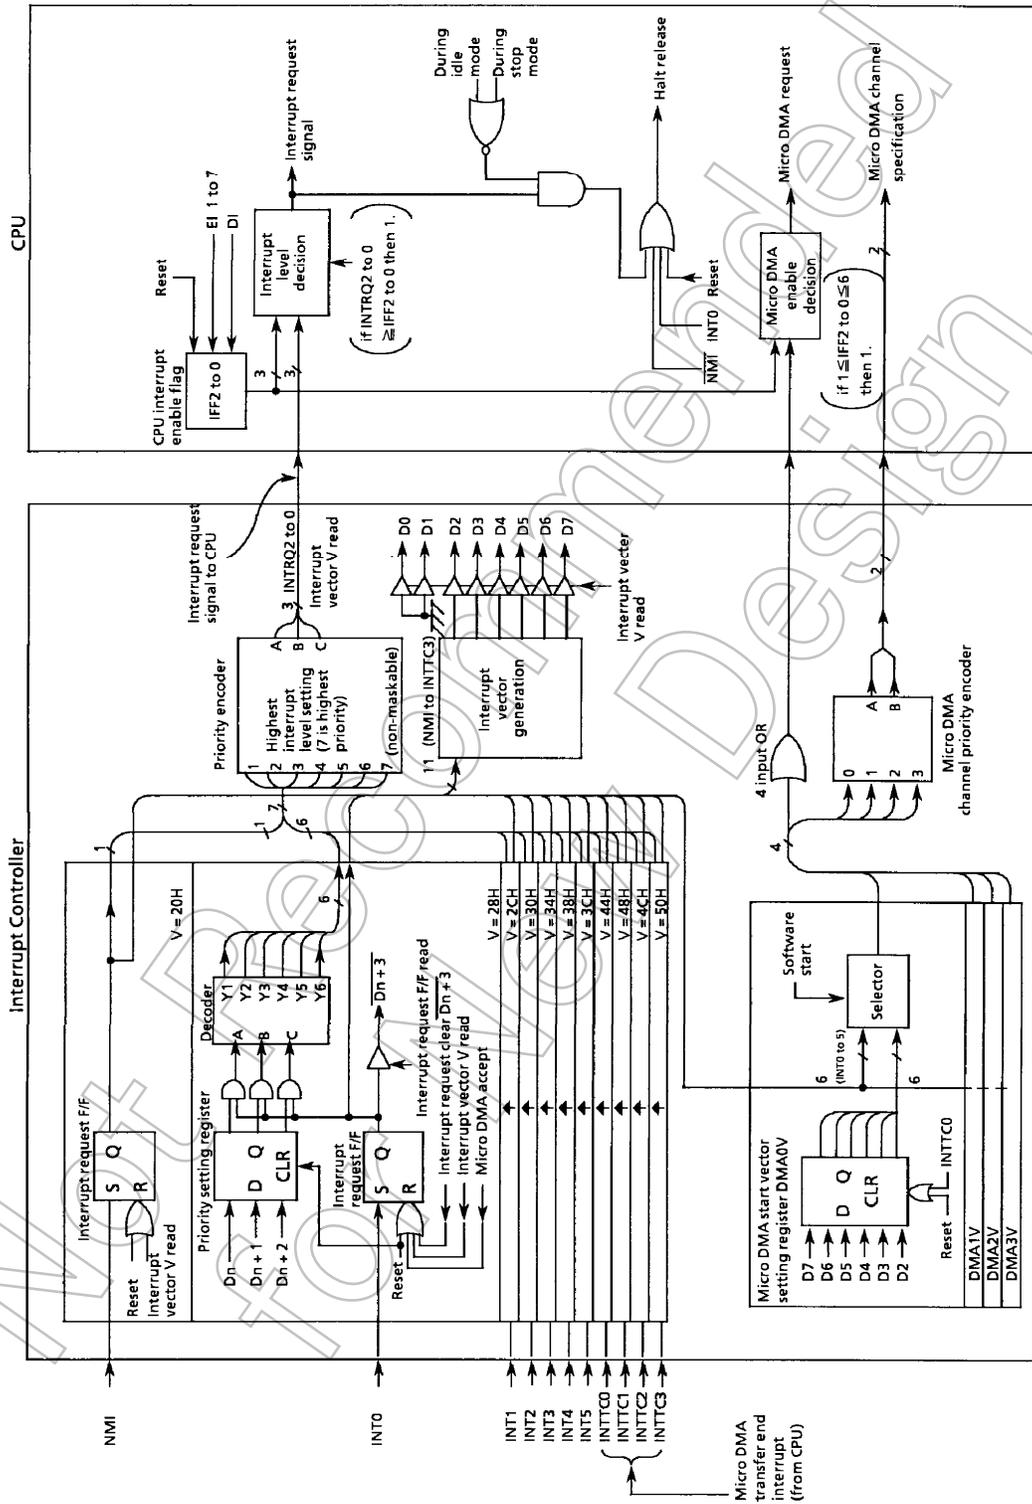

Figure 3.3 (4) Interrupt Controller Block Diagram
(2) Interrupt priority setting register
Figure 3.3(5) shows the interrupt priority setting registers. The interrupt request level setting bits <IxxM2 to 0> are provided for each 10 interrupt channels (INT0 to 5, INTTC0 to 3). Interrupt levels to be set are from 1 to 6. Writing 0 or 7 as the interrupt priority disables the corresponding interrupt request. The priority of the non-maskable interrupt ( $\overline{\text{NMI}}$  pin) is fixed to 7. If interrupt requests with the same interrupt level are generated simultaneously, interrupts are accepted in accordance with the default priority.